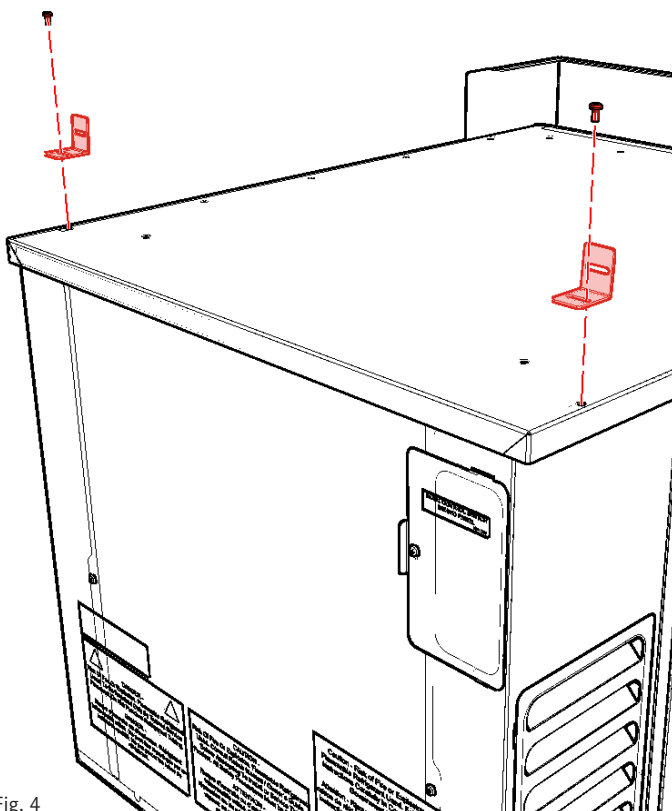

Fig. 4
Install two (2) brackets supplied to top of Convertible Cooler Freezer using two (2) provided M5 × 12 screws (Fig. 4).